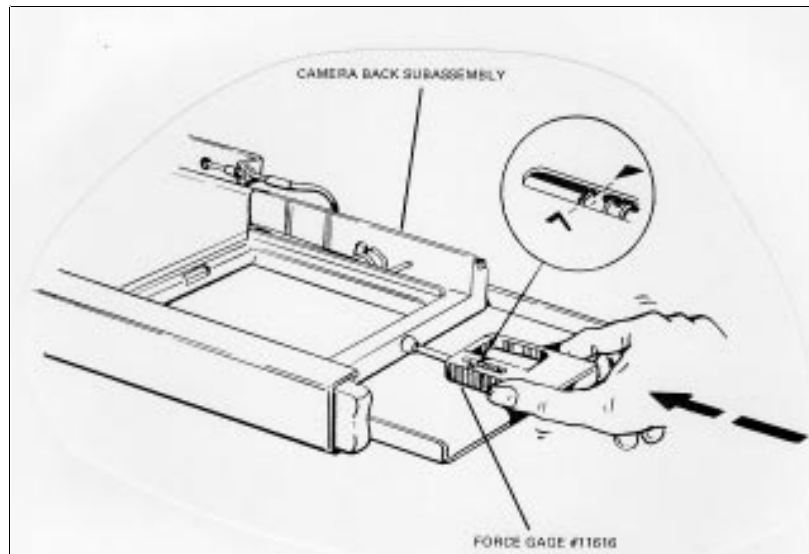

Figure 5-17. Measuring Sliding Head Force Pressure
- 2) Place the rubber tip of force gauge #11616 against the center of the right-hand camera back subassembly as shown in figure 5-17.